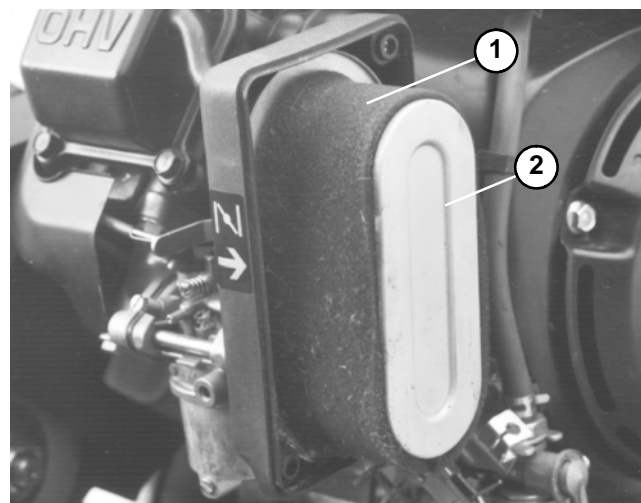

Figure 10
3. If the foam element is dirty, remove it from the paper element (Fig. 10). Clean foam element thoroughly.